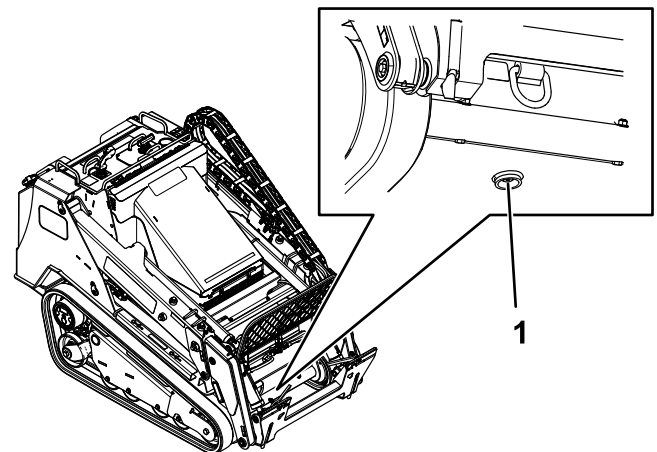

Figure 80
6. Place a large drain pan capable of holding 57 L (15 US gallons) under the drain plug on the front of the machine (Figure 80).
7. Remove the drain plug and allow the oil to drain into the pan (Figure 80).